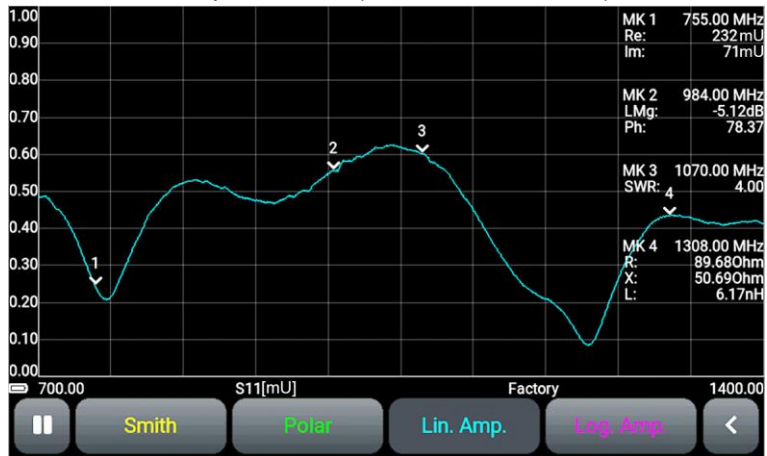

Figure 10.7 - Linear plot of the magnitude (mode S11)
10.4.1. The plot shows the dependence of the RC and TC magnitudes on the frequency on a linear scale (figure 10.7). Vertical scale of the plot in units (dimensionless value).